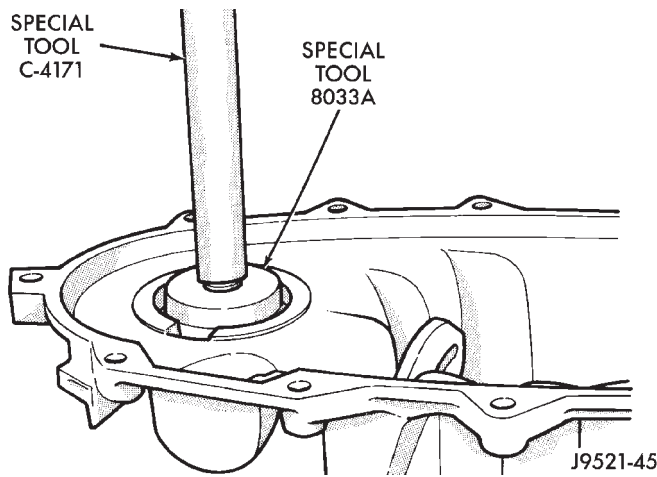

Fig. 48 Front Output Shaft Front Bearing Installation
- (2) Install new front output shaft front bearing with Tool Handle C-4171 and Installer 8033A with the tapered cone upward (Fig. 48).